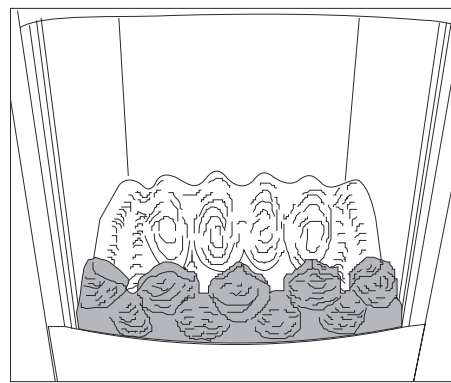

Figure 20
2. Position the front matrix in front of the burner and ensure that it rests on the base (see **Figure 20**).